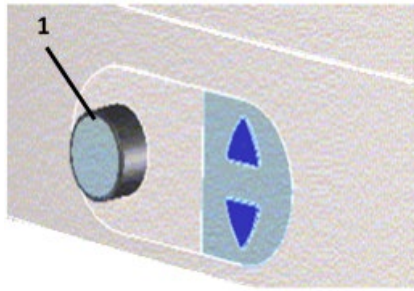

Fig 5
To choose between section thickness and trimming thickness, press the operating knob Fig 5 (1) or the button on the handle. The respective chosen value is now shown with a frame on the display.